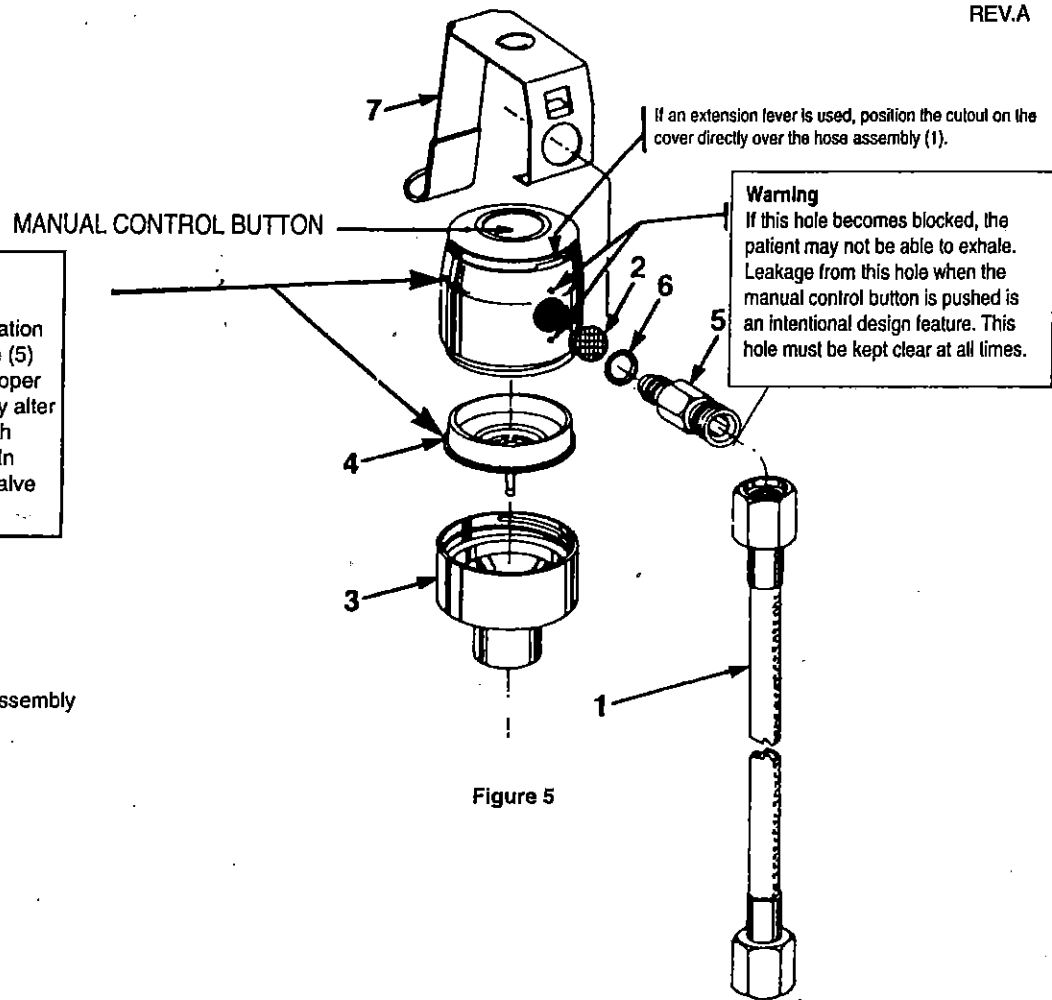

Figure 5
3. Install a new filter as shown in Figure 5. Make sure the dome of the filter is facing outside.